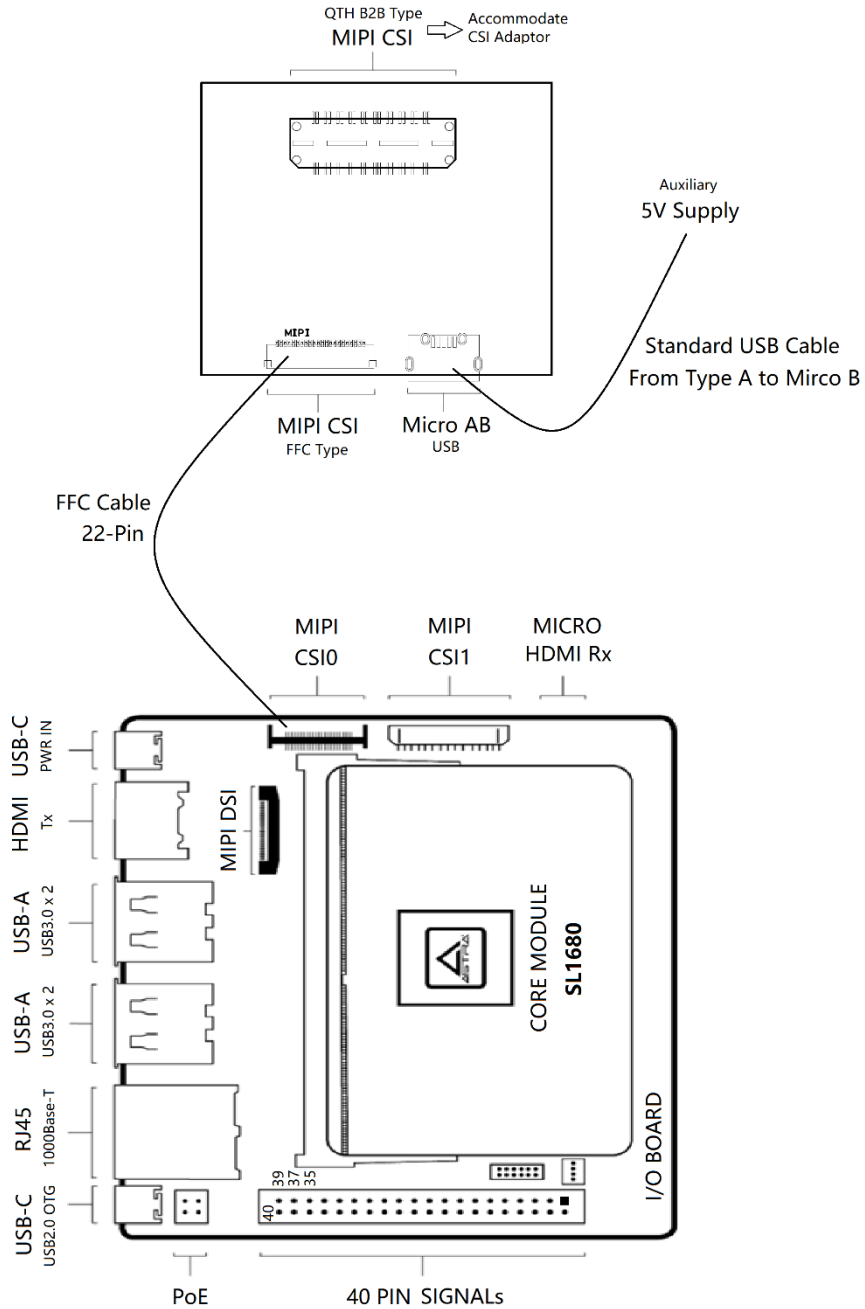
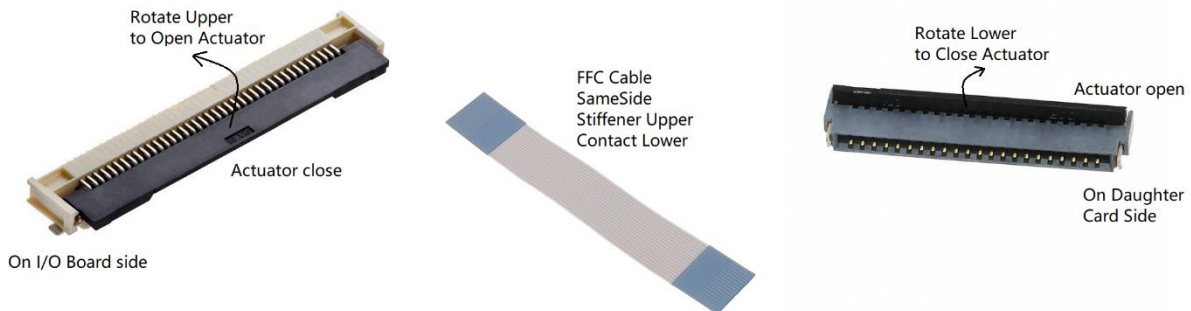

Figure 6. Connection block diagram for MIPI CSI Camera Module
Figure 7. Connector Actuator Status & FFC cable side (Type 1)
- [b] Connect a 51mm FFC cable between the MIPI CSIO connector on the Astra I/O board and the FFC connector on the connector converter board as illustrated in **Error! Reference source not found.**. Ensure the actuator of the FFC connector on both the I/O and converter boards is open before inserting the cable. The stiffener film should face upwards, as depicted in Figure 7 and Figure 8.
Refer to Figure 7 or Figure 8 to connect the standard USB-A to Micro B cable with Micro AB connector of connector converter board and USB 5V power supply, as shown in **Error! Reference source not found.**
C	Updated the following figures: <ul style="list-style-type: none"> <li>• Figure 6. Connection block diagram for MIPI CSI Camera Module</li> <li>• Figure 7. Connector Actuator Status &amp; FFC cable side (Type 1)</li> <li>• Figure 8. Connector Actuator Status &amp; FFC cable side (Type 2)</li> <li>• Figure 9. Connector connection with IMX258 module adapter</li> <li>• Figure 10. Complete connection with converter &amp; IMX258 adapter</li> </ul>